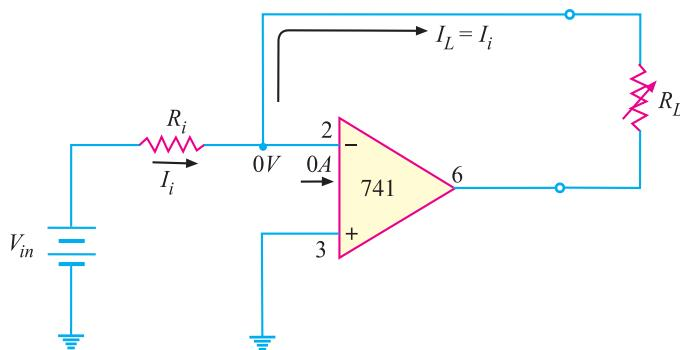

Fig. 23.21
**(vii) Constant-current source.** A constant current source delivers a load current  $I_L$  that remains constant when the load resistance  $R_L$  changes. Fig. 23.21 shows the basic circuit of a constant current source. Since the inverting (-) input of the Op-Amp is at virtual ground (0V), the value of  $I_i$  is determined by  $V_{in}$  and  $R_i$  i.e.